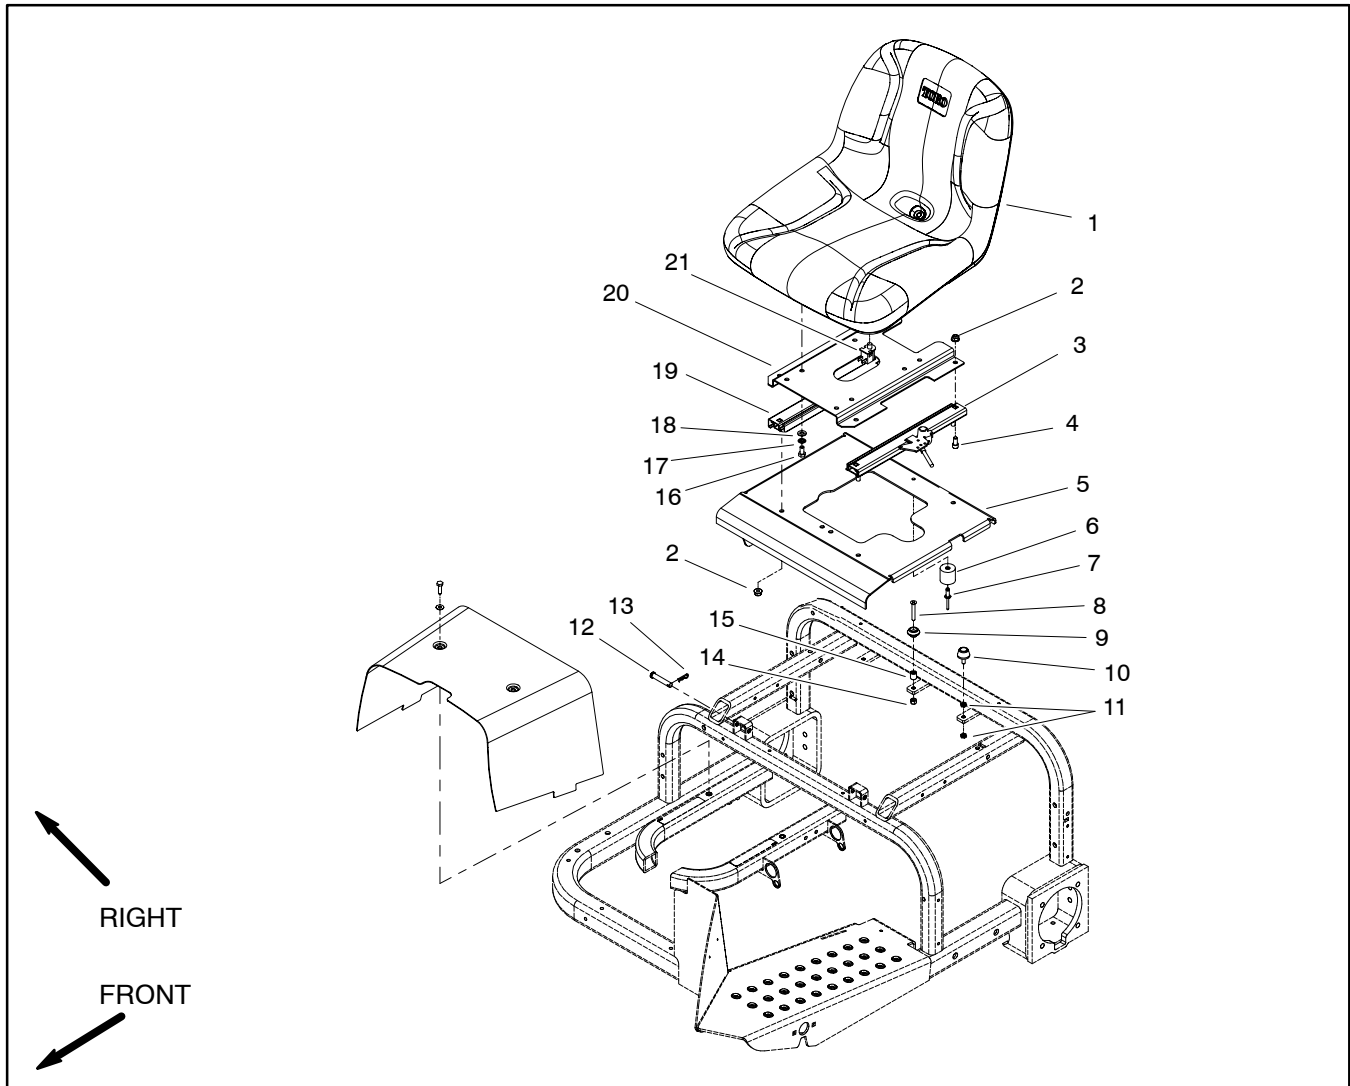

Figure 16
Removal (Fig. 16)
3. Remove seat components as necessary using Figure 16 as a guide.
Installation (Fig. 16)
1. Install seat components using Figure 16 as a guide.